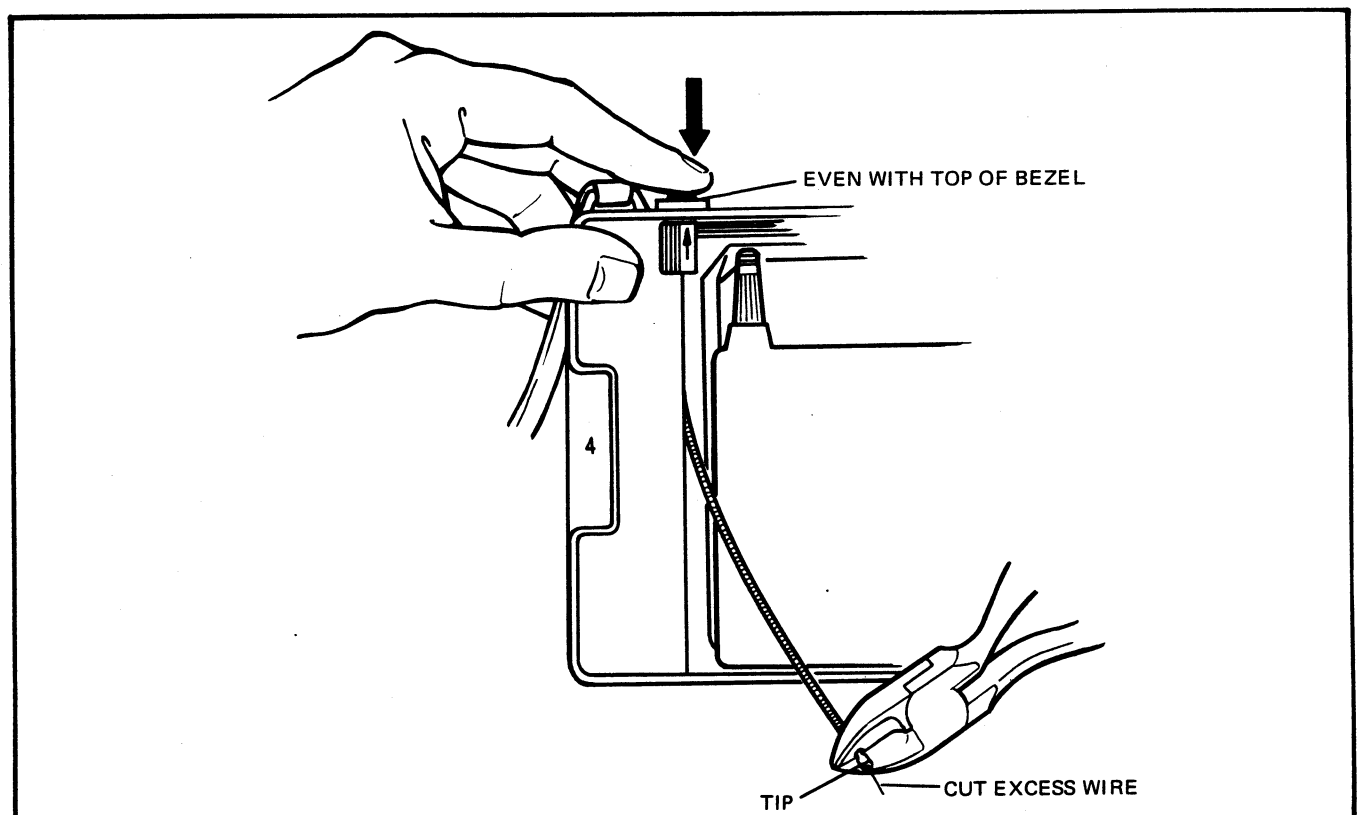

FIG. 5.25 CRIMPING THE SHUTTER RELEASE TIP
3. Depress the Number 2 button until the top of the button is flush with the top of the bezel. Insert the shutter release tip on the wire flush to the cable and crimp it using tool #169441 (Figure 5-25). Cut the excess wire.